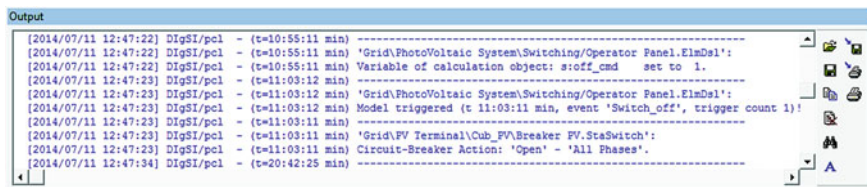

Fig. 16.18 PowerFactory output showing switching-off sequence
3. In the pop-up window, enter 1 (signal—high) for the “*New Value*” and click *OK*. Note the messages in PowerFactory output window, which reads as Fig. 16.18.